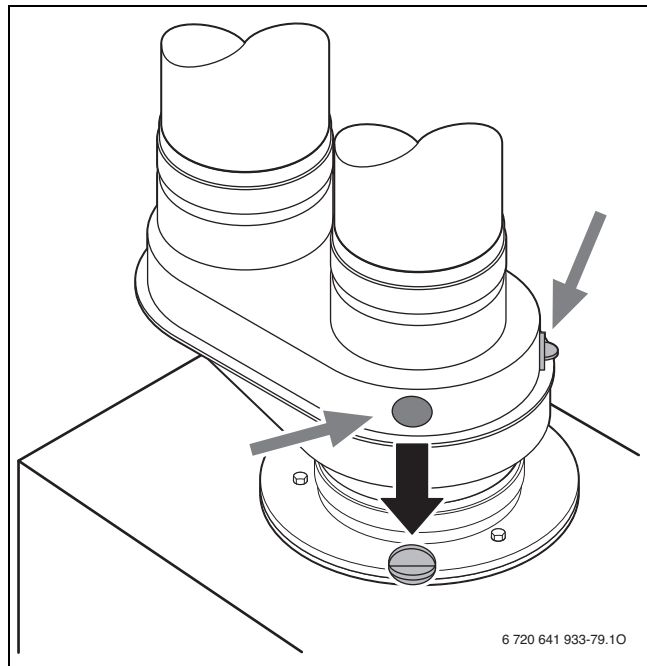

Fig. 60 Open one of the flue gas test ports
- ▶ Remove plug from flue gas test port (→ Fig. 60).